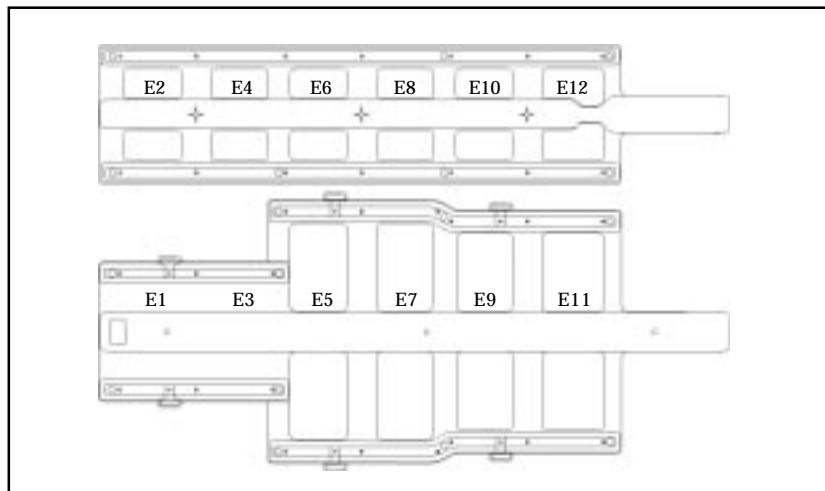
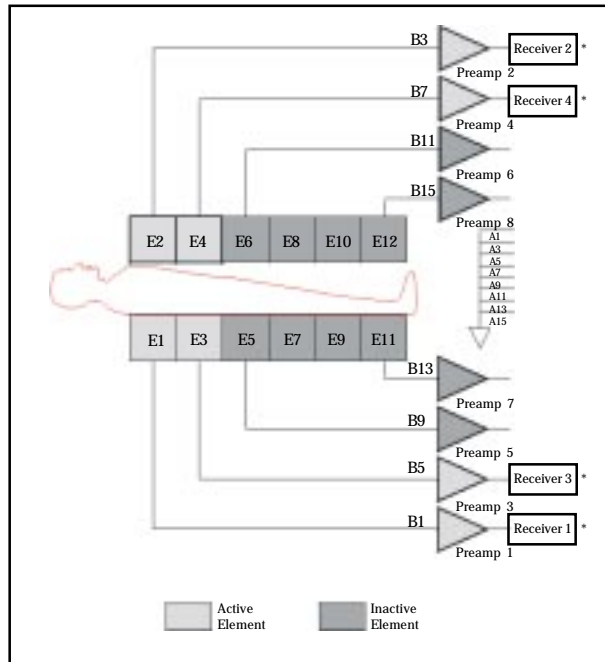

Figure 1: Block diagram of the coil.
Figure 2: "PVUPPER" signal path (port mask 3).
- The coil package is a flexible two-piece design. The coil also has a ramp pad that is positioned underneath the lower coil piece. The purpose of the ramp pad is to facilitate the positioning of the body vasculature in a horizontal plane. The coil contains 12 elements which are physically arranged into six pairs. A block diagram showing individual coil elements of the Phased Array Peripheral Vascular Coil is shown in *Figure 1*. A maximum of four RF inputs, representing either the upper (PVUPPER), middle (PVMIDDLE) or lower (PVLOWER) four coils can be selected at a time (*see Figures 2, 3 and 4*).